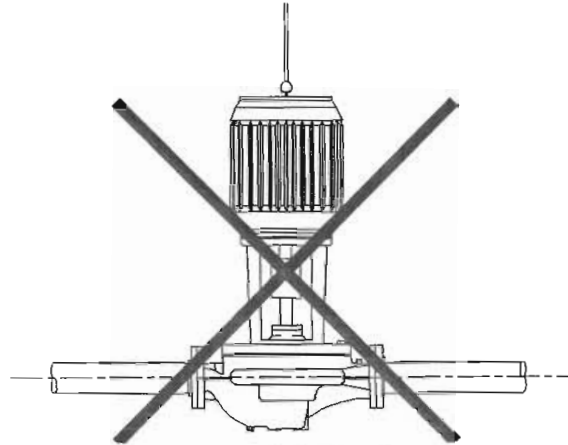

Fig. 2.6 Not Recommended – Hanging
- 2.6. DO NOT support the unit by the motor eye bolts (Fig. 2.6) or by any other part of the motor.